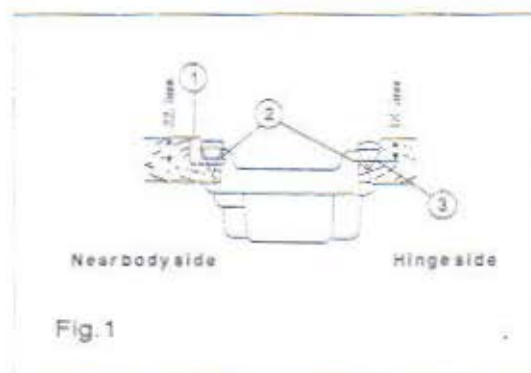

Fig.1
4. installation of the machine(Fig.1)
Put the oil reservoir rubber cushion ① and oil reservoir felt cushion ③ on four corners of the opening of the table, fix them with the wood screws ②, then install the oil reservoir (Fig1)